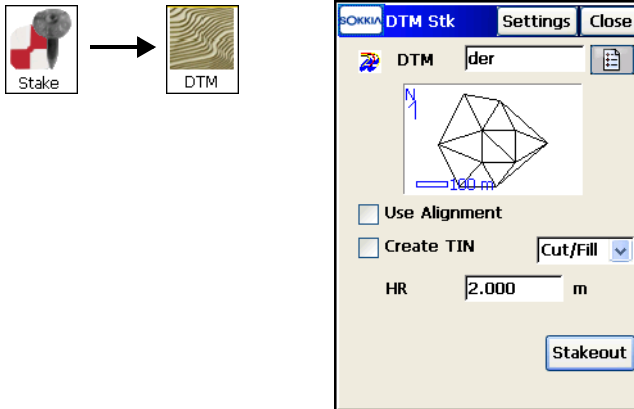

Figure 9-49. Select DTM
2. On the *DTM Stk* screen (Figure 9-49), tap the **List** button to select a TN3 file containing the desired DTM.
3. On the *DTM Stk* screen (Figure 9-49), check and enable the *Use Alignment* box to use station and offset information while staking the DTM, check and enable the *Create TIN* box to generate a new TIN (TN3) Cut/Sheet model of the points staked.